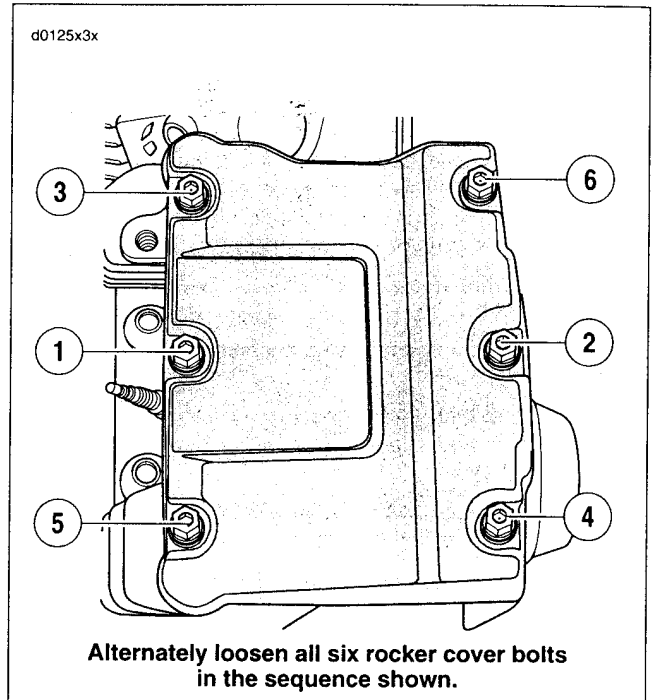

Figure 3-18. Rocker Cover Bolt Removal (Rear Cylinder Shown)
2. See Figure 3-18. Following the sequence shown, alternately loosen the six rocker cover bolts. Remove the rocker cover bolts and their captive washers.